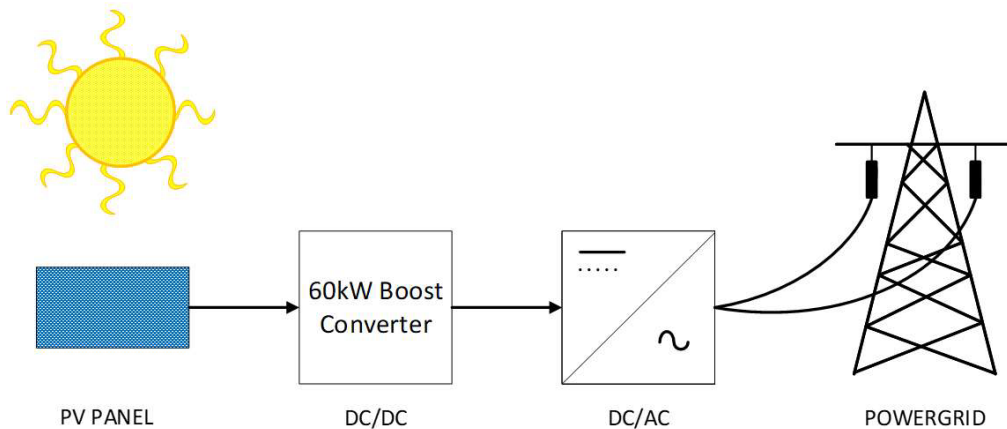

Figure 1: Solar power generation
There is a growing need for high efficiency DC/DC power converters in a variety of industrial and automotive applications. Two of the largest areas of need are solar power generation and fuel cell electric vehicle (FCEV) boost converters. In solar power generation, the photovoltaic (PV) cells utilize the sun's energy to generate DC voltage, which is usually in the range of 400 V to 600 V. This DC voltage needs to be boosted to approximately 850 V so that an inverter (DC/AC) can generate 480 VAC to feed the power from the PV cells into the power grid as shown in Figure 1.